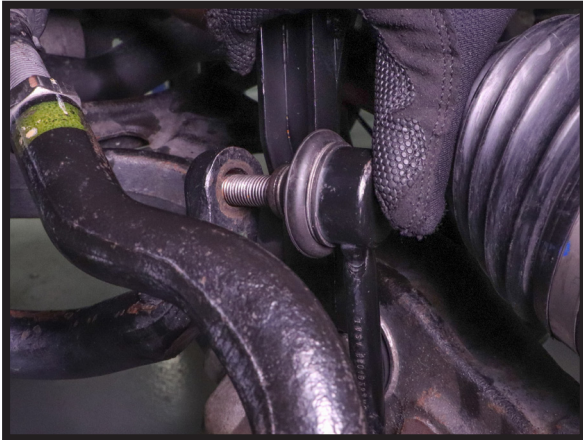

FIGURE 31
6. RECONNECT SWAY BAR END LINK TO THE SHOCK ABSORBER (NOT PICTURED) AND TIGHTEN TO MANUFACTURER'S SPECIFICATIONS. (FIGURES 31, 32)